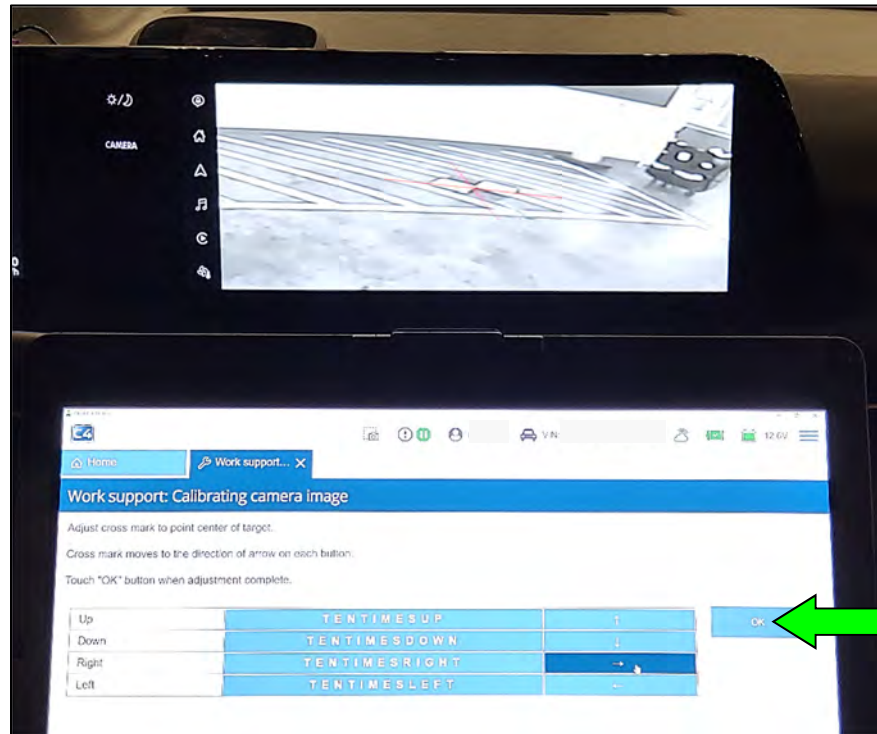

Figure 112
81. When the center of the red crosshair is in the center of the calibration target, select **OK** (Figure 112).
82. Repeat steps 79 - 81 starting on page 58, for all seven (7) targets, and then select **mm**.